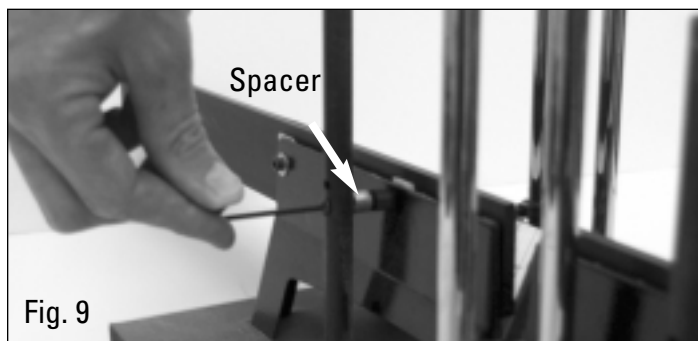

Fig. 9
- c. Install screw thru rod, thru rod spacer and into saw base. (Fig. 9).